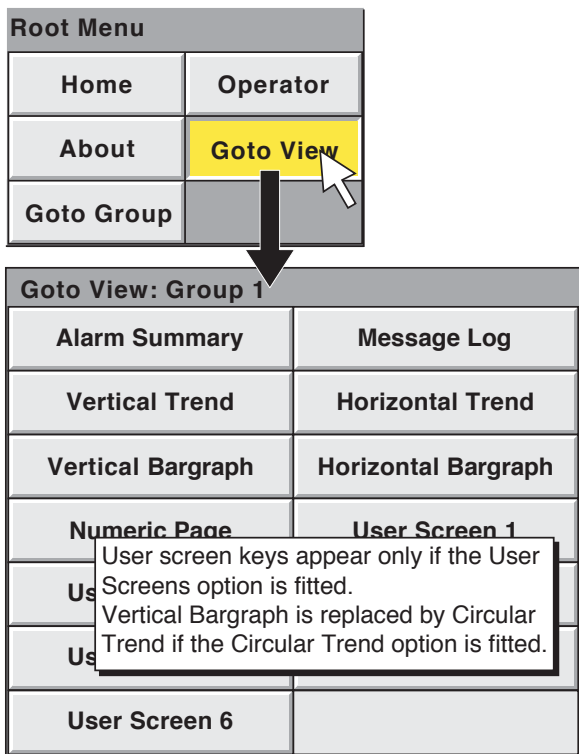

Figure 3.2.1a
| Root | Calls the 'Root Menu' as shown in figure 3.2.1a, below. To quit the Root menu, click the root key again. |
- Goto View Allows the user to select the display mode for the current group, as shown in figure 3.2.1a. Display modes not enabled for this group in Config/Views configuration pages (section 4.3.4) do not appear. As an alternative, display modes can be scrolled-through using the up and down arrow navigation keys.